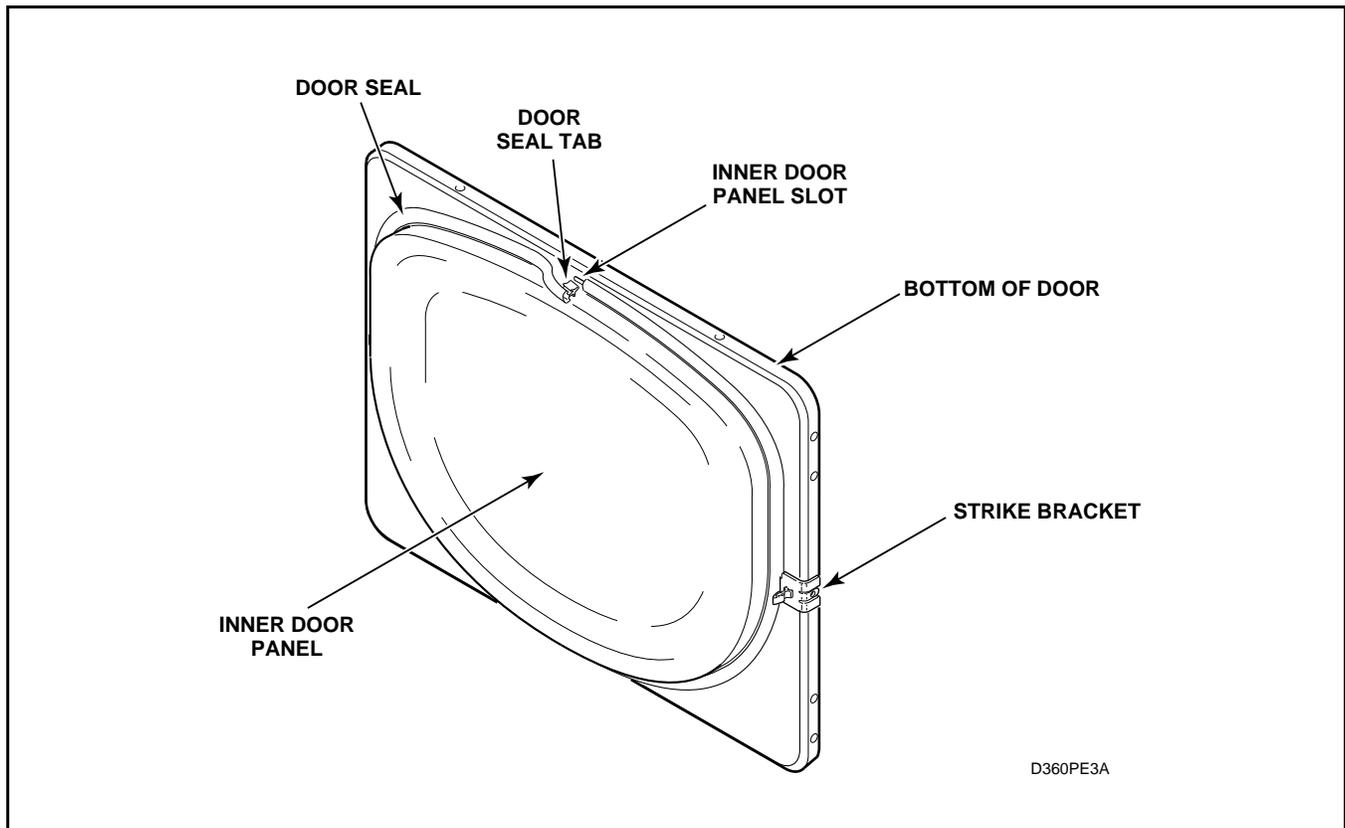

Figure 10
(Figure 10)
- b. Grasp either end of door seal at bottom of door and remove seal from tabs on inner door panel by gently pulling on the seal. See *Figure 10*.
NOTE: When replacing seal, be sure seal is not stretched or distorted. The tab in the seal should be installed in each slot of the inner door panel, shown in *Figure 10*. The split in the seal must be at the bottom of the door. Make sure that each tab of the seal is fully engaged into the slot.